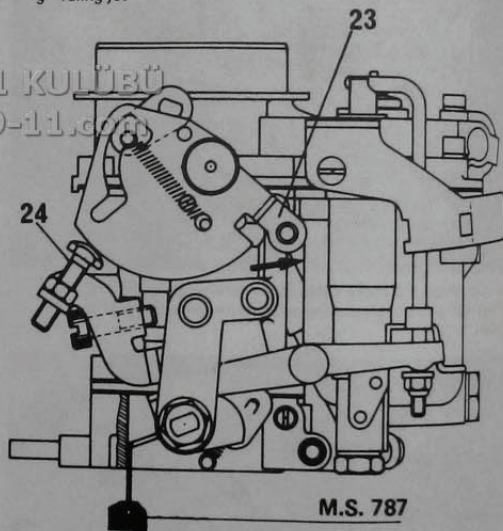

Fig. 3.9 Initial throttle opening adjustment - Zenith carburettor (Sec 17)
- 6 A twist drill or suitable rod having a diameter equal to the initial throttle opening setting given in the Specifications, should just slide between the throttle valve and the venturi wall (Fig. 3.9).